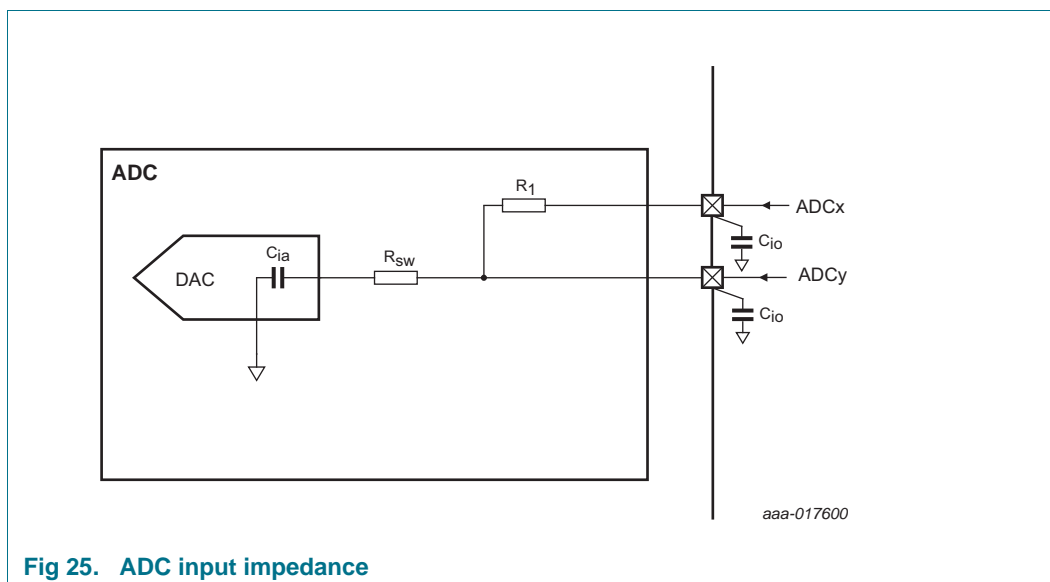

Fig 25. ADC input impedance
- [10] Input impedance  $Z_i$  is inversely proportional to the sampling frequency and the total input capacity including  $C_{ia}$  and  $C_{i0}$ :  $Z_i \propto 1 / (f_s \times C_i)$ . See Table 16 for  $C_{i0}$ . See Figure 25.
- (1) Example of an actual transfer curve.
- (2) The ideal transfer curve.
- (3) Differential linearity error ( $E_D$ ).
- (4) Integral non-linearity ( $E_{L(adj)}$ ).
- (5) Center of a step of the actual transfer curve.
Figure 25 shows the ADC input impedance. In this figure: